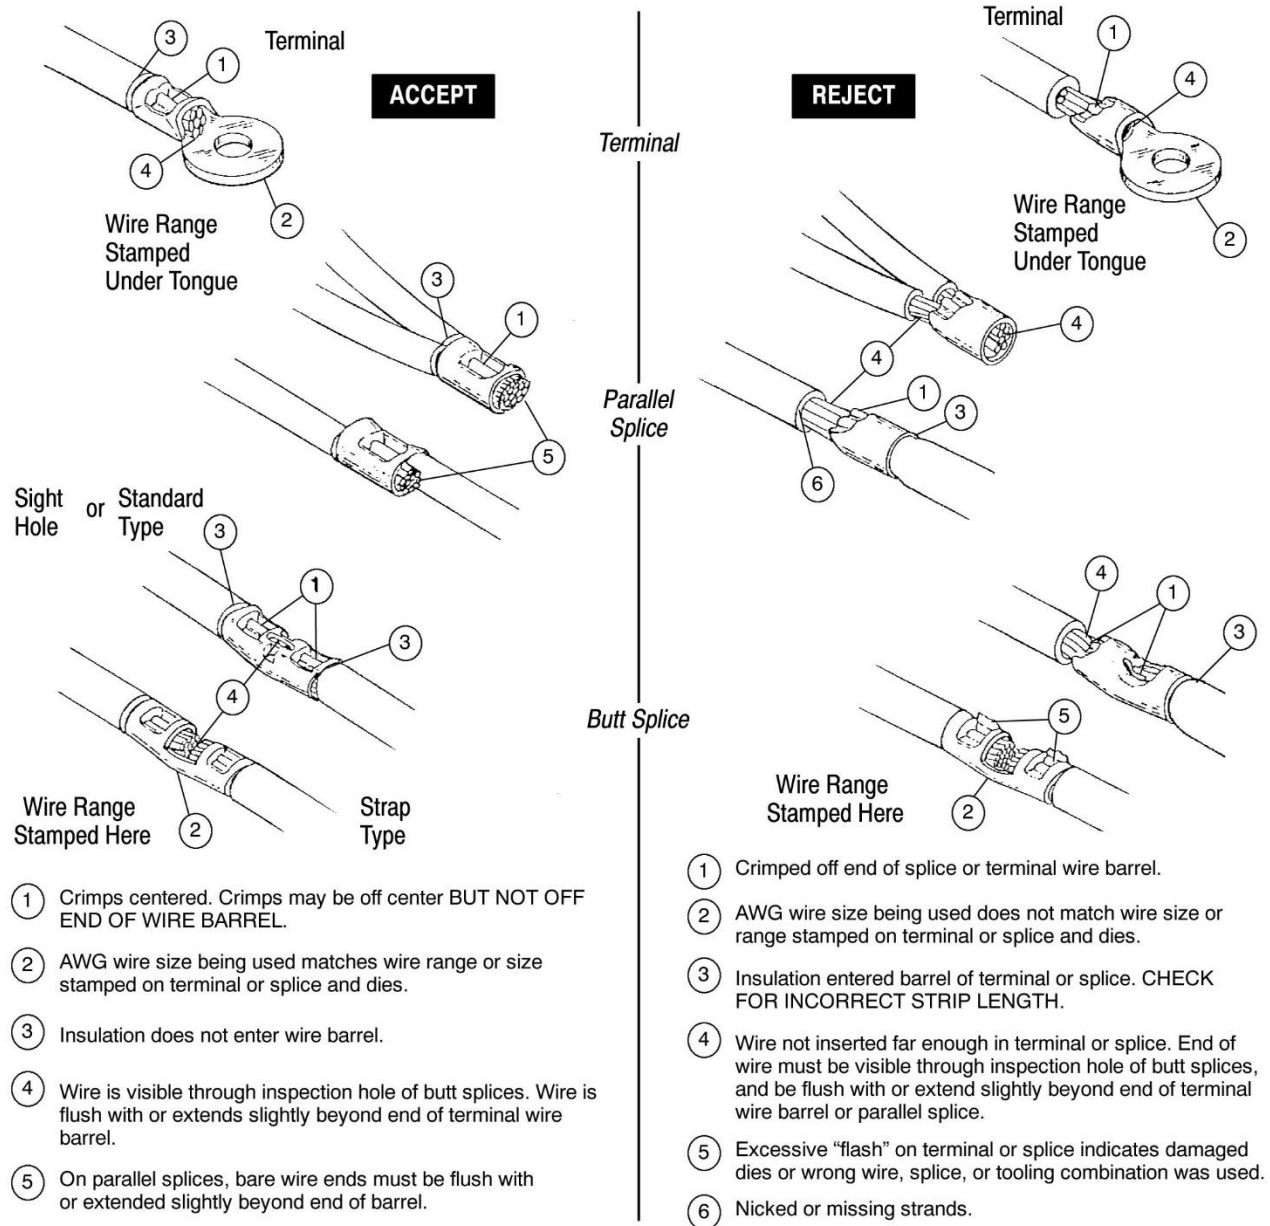

Figure 6
5.1. Crimp Inspection (Figure 6)
Inspect crimped terminals or splices by checking the features described in Figure 6. Use only terminals or splices that meet the conditions shown in the ACCEPT column. Terminals and splices displaying the features shown in the REJECT column can be avoided by careful use of these instructions and by performing the maintenance and inspection procedures described in Paragraphs in 5.2 and 5.3.